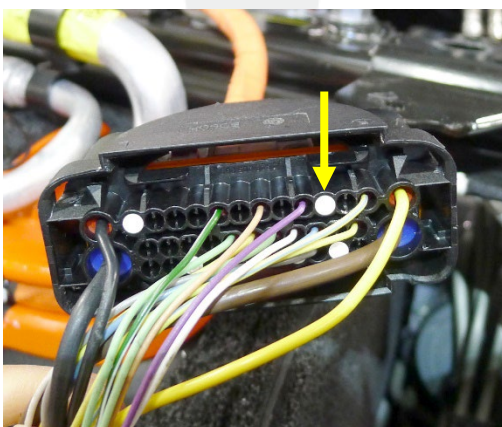

Figure 20
21. Use a pick to remove the plug from receptacle 28 of connector X151 (Figure 20).